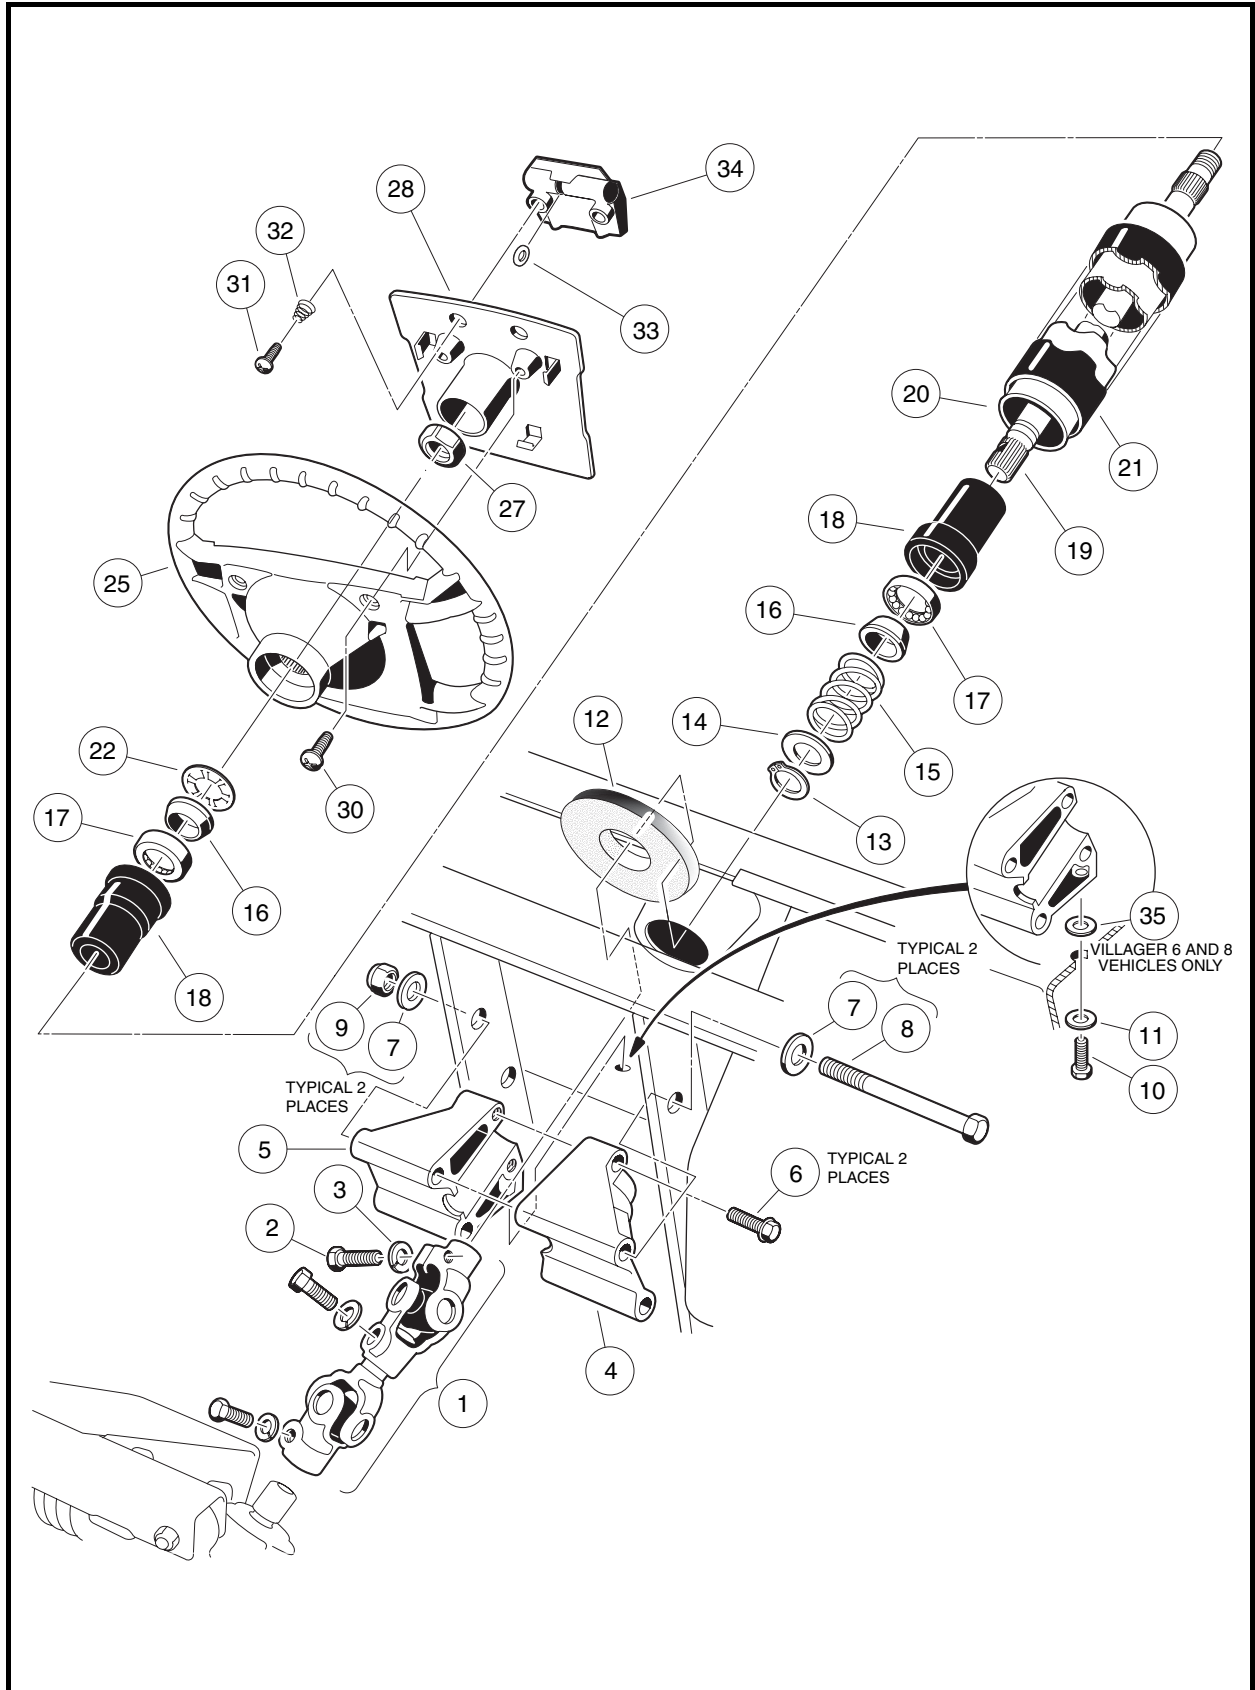

Figure 7-3 Steering Column
2. Remove the two mounting screws (30) and plate (28) (**Figure 7-3, Page 7-3**).
3. Match mark the steering wheel (25) and steering column shaft (19) so when the steering wheel is removed it can be placed back in exactly the same position on steering column shaft (**Figure 7-3, Page 7-3**).
4. Loosen the steering wheel nut (27) and back it off approximately 1/4 inch (6 mm). Do not remove the nut (**Figure 7-3, Page 7-3**).
- 5.6. Remove the steering wheel nut (27) and the steering wheel (25) from the steering column (20) (**Figure 7-3, Page 7-3**).
1. Install the steering wheel (25) on the splines of the steering shaft (19). Be sure to align the match marks placed on the wheel and steering column in step 3 above (**Figure 7-3, Page 7-3**).
2. Install the steering wheel nut (27) and tighten to 13 ft-lb (17.6 N·m).
3. Install the steering wheel plate (28) and plate mounting screws (30) (**Figure 7-3, Page 7-3**). Tighten screws to 16 in-lb (1.8 N·m).
5. Remove the upper bolt (2) and lock washer (3) from the universal joint (**Figure 7-3, Page 7-3**).
6. Remove the nuts (9), bolts (8 and 10), and washers (7, 11, and 35) from the steering column mount (4 and 5) (**Figure 7-3, Page 7-3**).
1. Remove bolts (6) and mounts (4 and 5) from steering column. Remove boot (12) (**Figure 7-3, Page 7-3**).
2. While supporting steering column (20) on a workbench, remove snap ring (13) from shaft. **See following NOTE.**
4. Insert the shaft (19) from the bottom of the steering tube (20) (**Figure 7-3, Page 7-3**).
1. Install boot (12). Reinstall mount (4 and 5) onto the end of the steering column. Tighten bolts (6) to 20 ft-lb (27 N-m) (**Figure 7-3, Page 7-3**).
- Position the steering column assembly in the vehicle while inserting the steering column shaft into the upper universal joint (1). The flat portion of the steering shaft spline (19) must be aligned with the bolt hole in the universal joint (1) before sliding the spline into the universal joint. While holding the steering column in place, attach it to the frame using bolts (8), washers (7), and nuts (9) (**Figure 7-3, Page 7-3**). Thread the nuts onto the bolts but do not tighten them.
- Install washer (35) (Villager 6 and 8 vehicles only), washer (11), and screw (10). Tighten to 20 ft-lb (27 N·m) (**Figure 7-3, Page 7-3**).
- Install the bolt (2) and lock washer (3) on the upper universal joint and finger-tighten.
- Tighten the two nuts (9) and bolts (8) to 18 ft-lb (24.4 N·m) (**Figure 7-3, Page 7-3**).
- Tighten the bolt (2) on the upper universal joint to 15 ft-lb (20 N·m) (**Figure 7-3, Page 7-3**).
- Check the other two bolts of the universal joint (1) to ensure that they are properly tightened to 15 ft-lb (20 N·m) (**Figure 7-3, Page 7-3**).
5. Remove the bolt (2) and flat washer (3) on the upper universal joint, then remove the rack assembly and universal joint from the vehicle (**Figure 7-3, Page 7-3**).